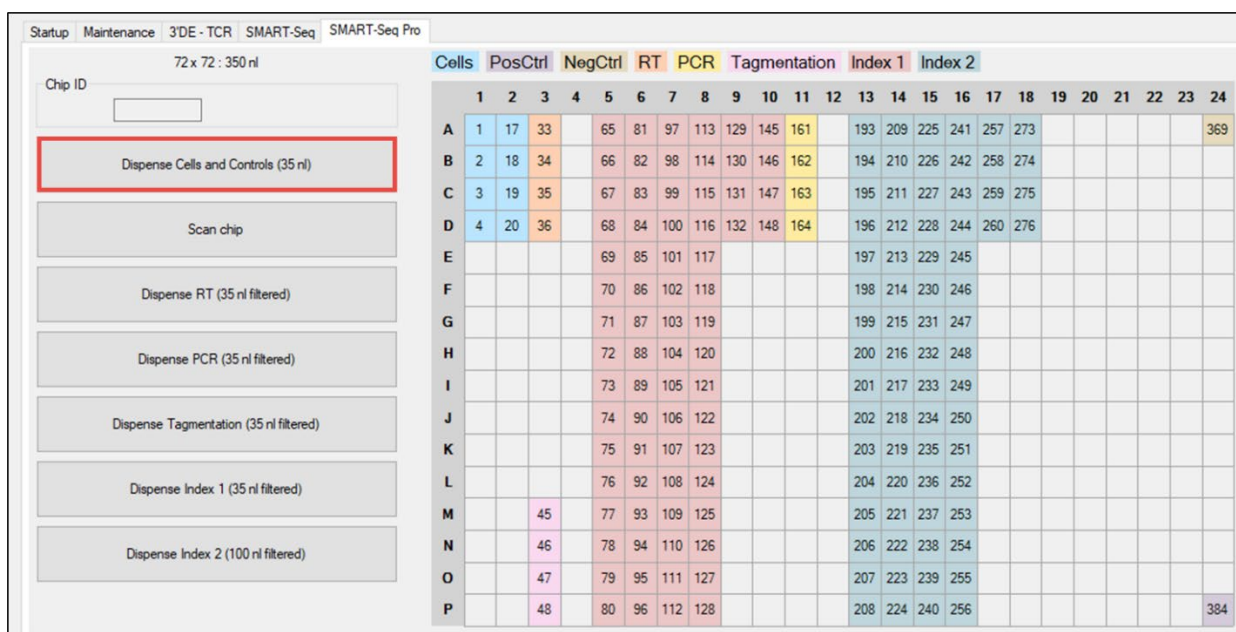

Figure 7. Using CELLSTUDIO software to dispense cells into the Single-Cell 350v Chip.
11. In CELLSTUDIO software, click the [Dispense cells and Controls (35 nl)] button (Figure 7).